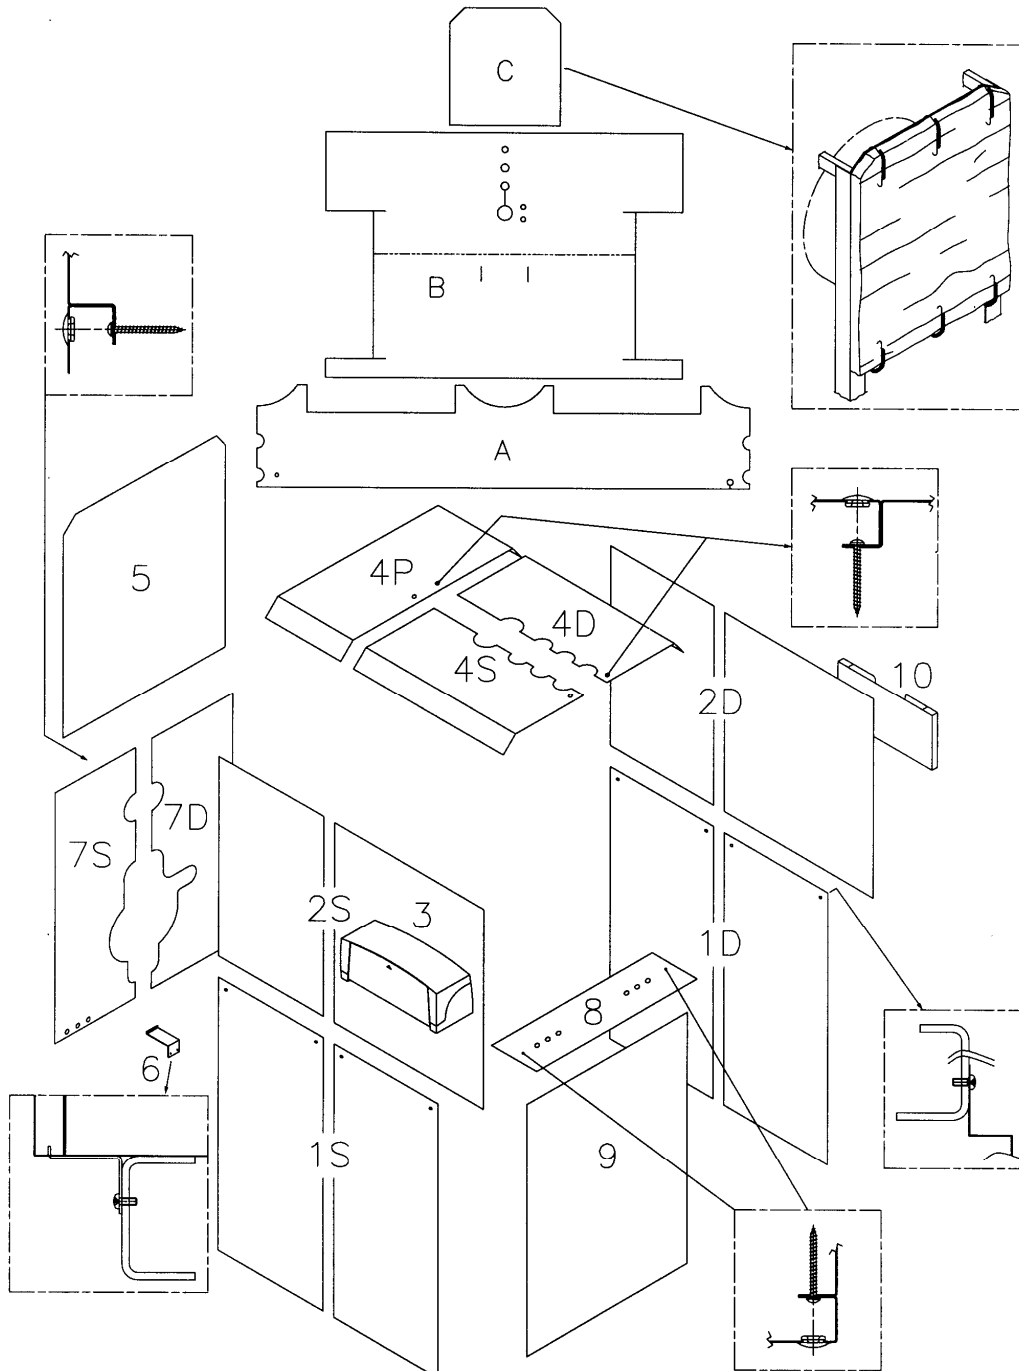

Fig. 6
5.4 BOILER COVERING mod. 350 GT/JB-670 JB (Fig. 6)
- Unwind the thermostat capillaries, attach the control panel (3) to the side with a screw, then insert the bulbs into the shaft.
- Mount the panel (5); attach the support bracket (6) to the frame base, position the panel (7D) and then the panel (7S) with fairlead attached to its side panels. Screw on tightly and plug the passage holes with the appropriate caps.
- Attach and screw on the front/central (8) and front/lower (9) panels.
- Finally, screw the document holder (10) on to the opposite side of the control panel.